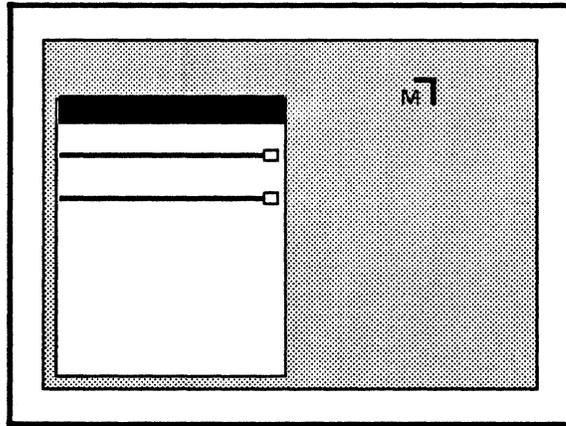

Figure 3.15
- 3) Move the cursor to show the system where you want to move the window. As you move the cursor from one corner of the display to another, the cursor changes shape. The cursor's position and shape mark the new corner. See figure 3.15.